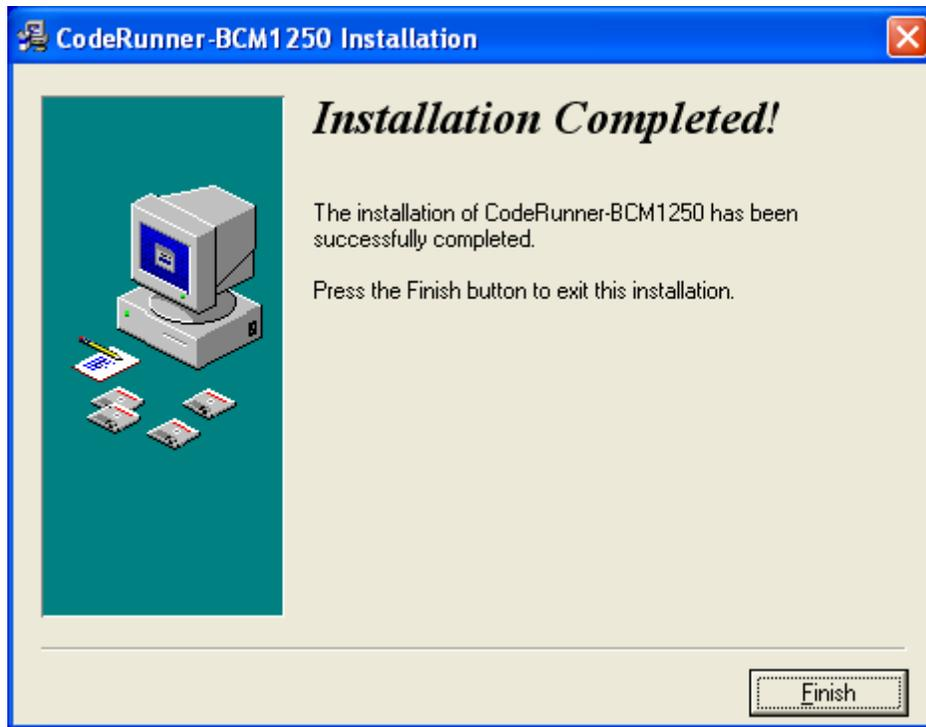
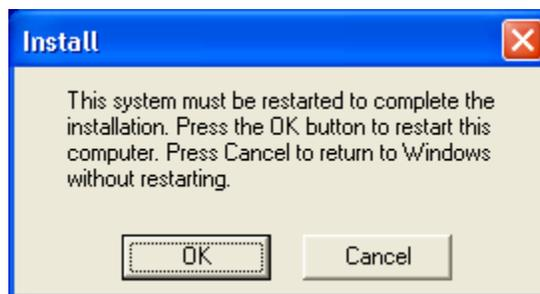

Figure 2-9. Installation Completed Screen
Figure 2-10. Reboot Dialog Box
Figure 2-9. Installation Completed Screen.....	2-10
Figure 2-10. Reboot Dialog Box.....	2-10
11. The **Installation Completed** screen shown in Figure 2-9 will appear to indicate that the installation is complete. Click on the **Finish** button to exit from the installation program. You will then be prompted to reboot your computer to complete the installation by the dialog box shown in Figure 2-10. You may press the **Cancel** button to avoid rebooting your computer now, but you must reboot before running CodeRunner.